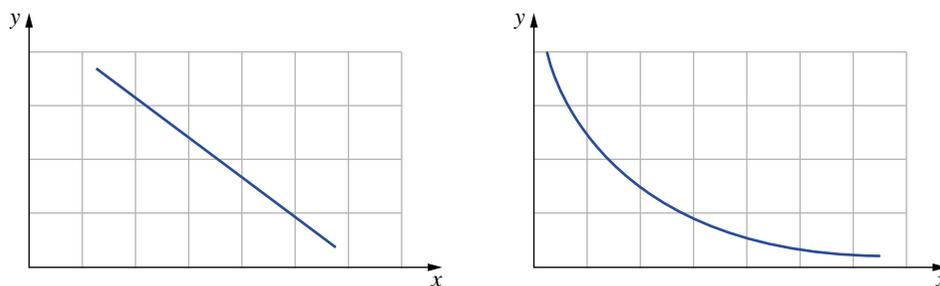

FIGURE 20.5.4 An inverse relationship in which one variable decreases in response to the other variable increasing. It may be (a) direct or (b) non-linear.
- When there is an inverse relationship, one variable increases as the other variable decreases (Figure 20.5.4).